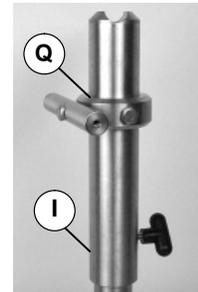

Figure 6
- If diagonal bracing is required, install sleeve assembly (Q of Figure 6) over tube assembly (I).